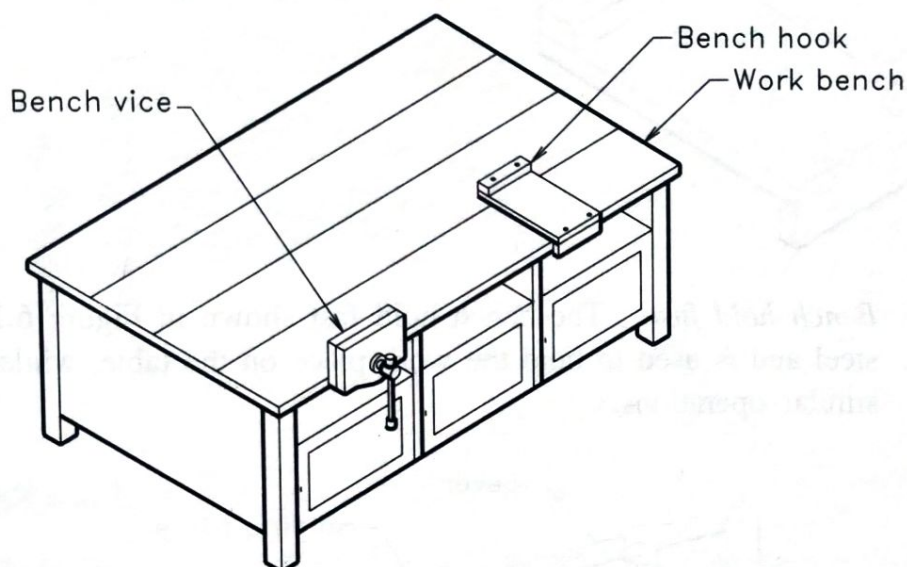

FIGURE 6.9
1. *Work bench:* This is a table of heavy size and rigid construction made of hard wood. The size ranges from 50 to 180 cm in length and about 90 cm in width. Two or four carpenters can work at a time on this work bench. Carpenter's vice and bench-hook are fixed on the edge and top respectively as shown in Figure 6.9.